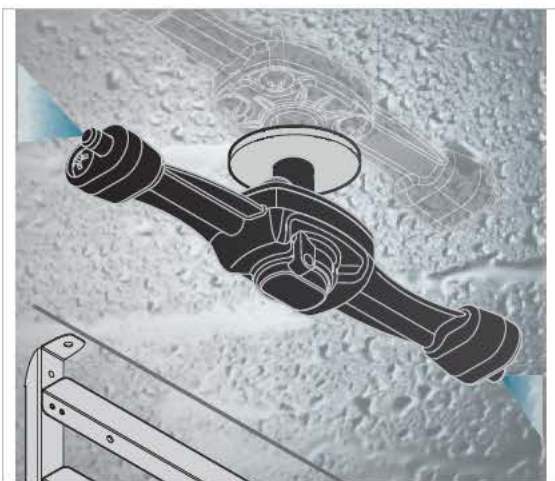

Figure 29
- a plastic rotor with two nozzles (see Figure 29);